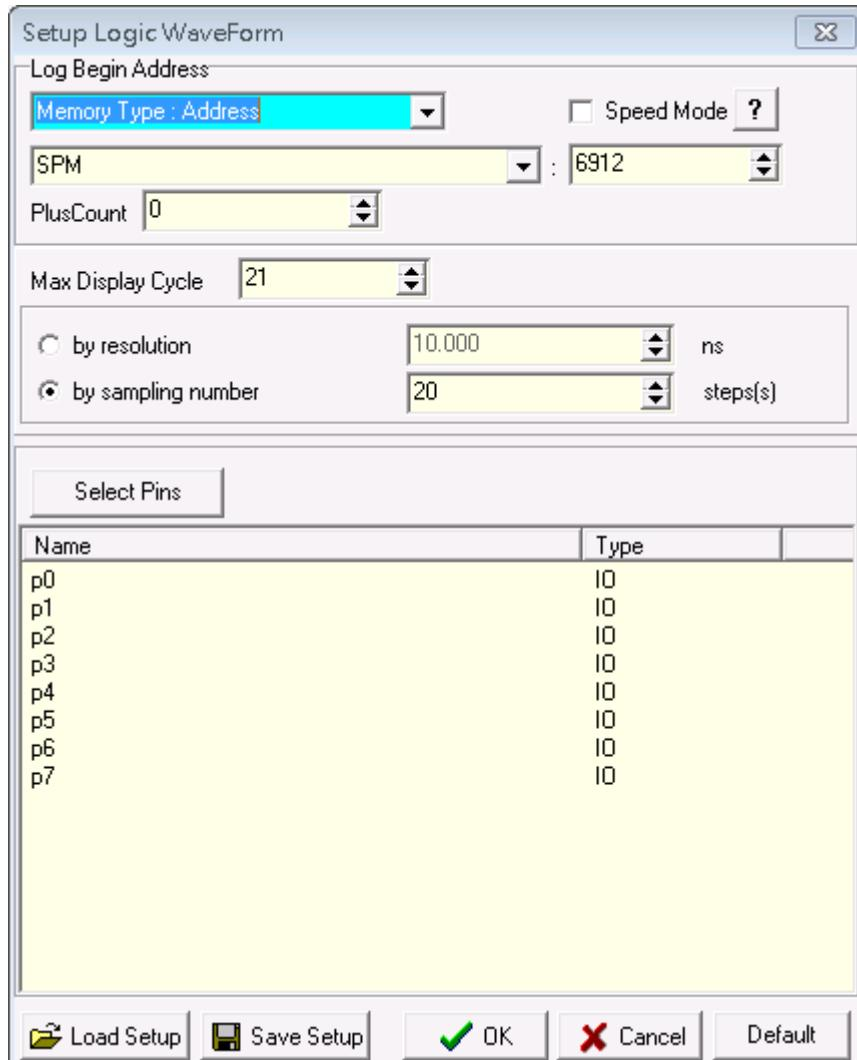

Fig. 12-4 Waveform Parameter Setup Window
- (1) From the waveform parameter setup window, make necessary parameter entries (see fig. 12.4).
- (2) Click **OK** button to finalize the parameter input. At the moment, the parameters are setup in this manner.